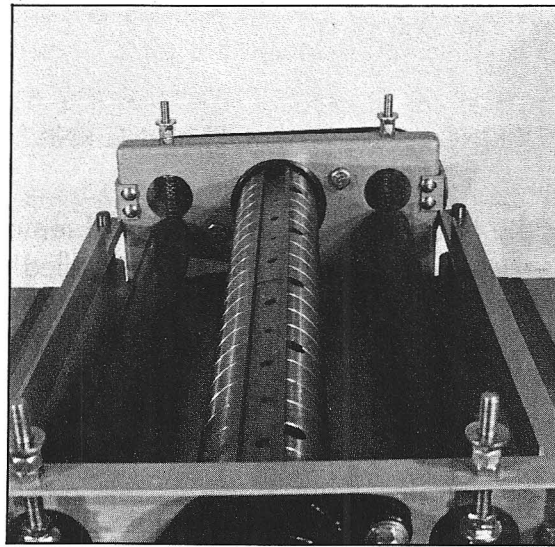

Fig. 12
4. Install the three cap screws through the counterbored holes in the gibs into the threaded holes in the cutter-head. Tighten until they are snug. (fig. 12)